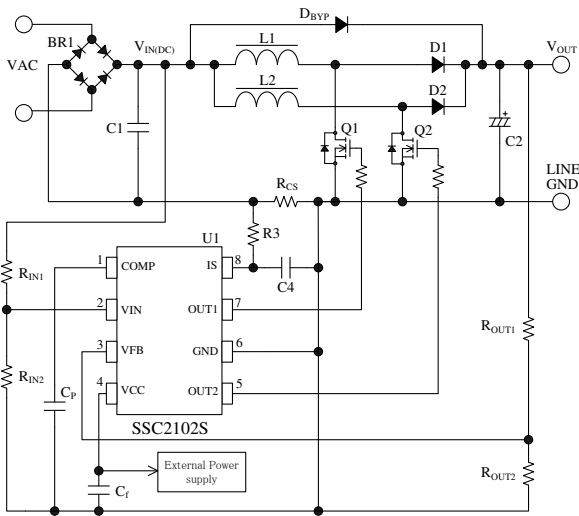

Figure 9-1 IC peripheral circuit
- P_O : PFC Output power per phase (W)
- $V_{INRMS(MIN)}$: Minimum input RMS voltage (V)
- $V_{INRMS(MAX)}$: Maximum input RMS voltage (V)
- V_{OUT} : PFC output voltage (V)
- I_{INRMS} : Input RMS current (A)
- The symbols of components are defined as shown in Figure 9-1.